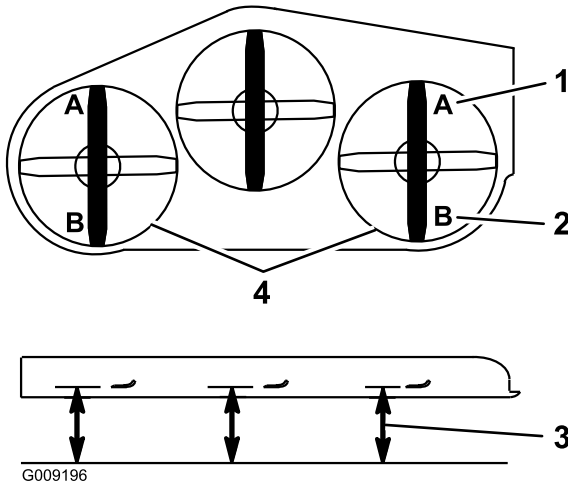

Figure 92
- 9. On both sides of the deck, measure from the level surface to the front tip of the blade (Position A); refer to Figure 92.
15. On both sides of the deck, measure from the level surface to the back tip of the blade (Position B). The measurement should read 8.3 cm (3-1/4 inches); refer to Figure 92.